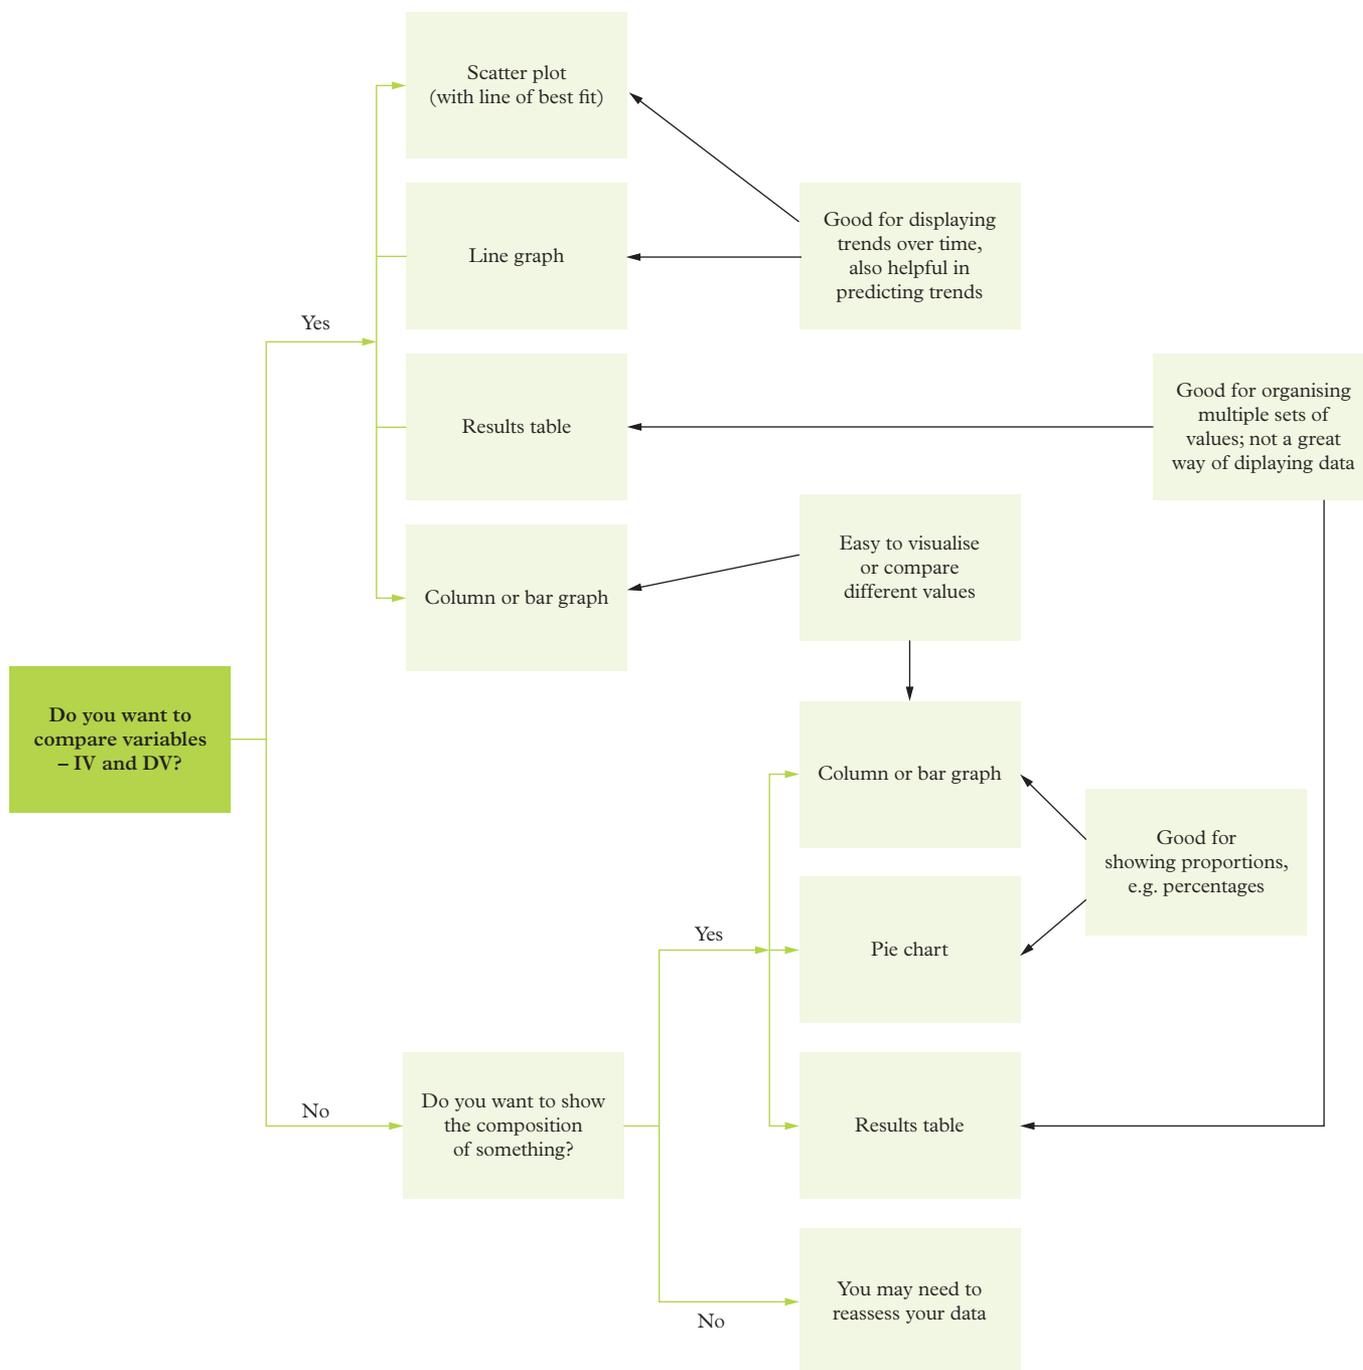

FIGURE 2 A flow chart to assist your decision on how you will display your data
The way in which you display your data is important; some graphs cannot be used for a particular purpose. For example, you cannot use pie charts to compare data. The flow chart in Figure 2 summarises different methods of displaying data depending on how you wish to use the information.
Step 1: Use the flow chart in Figure 2 to determine which graph type best suits the data.	The data has variables to compare, so we could use a line graph or a bar chart. Both are presented here.